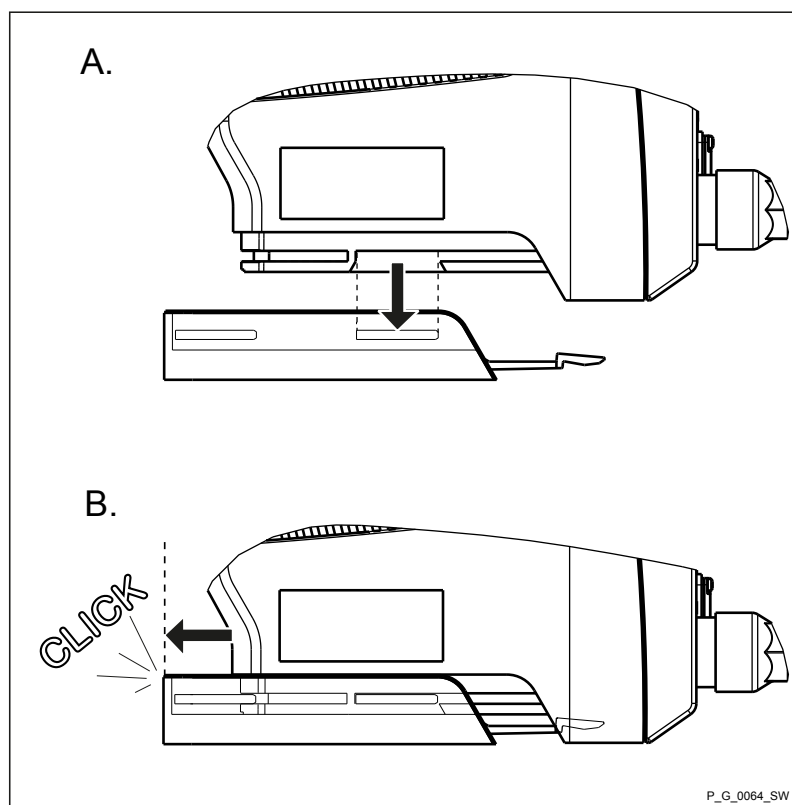

Fig. 9
3. ➔ Lock the foot of the metering pump into the mounting plate – see Fig. 9.